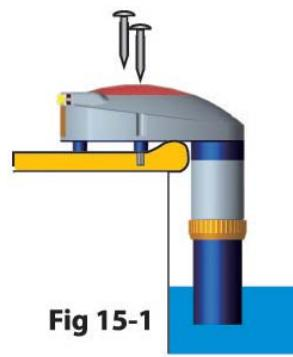

**Fig 14-1**
- B. choose the proper place to install, mark the position for hole drilling, and drill two holes 3-4cm deep; (see Fig. 14-1/2 )